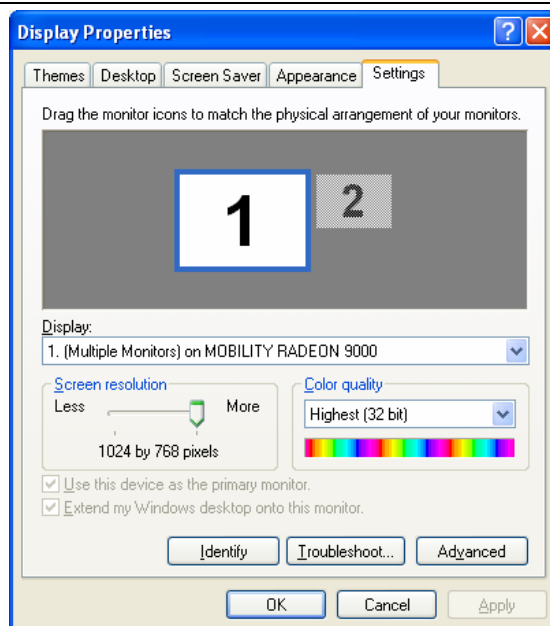

Figure 23: Display Properties
- a. Right click on the desktop and select properties. At the window shown in Figure 23, click Settings